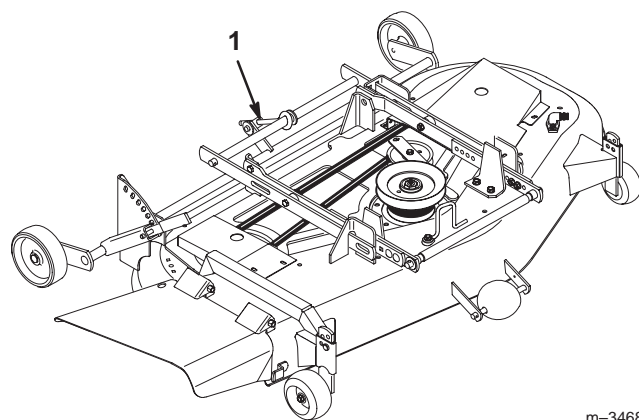

Figure 17
- If an adjustment is required, turn the adjusting nut (Fig. 17) on the back of the mower. To raise the front of the mower, turn the adjustment nut clockwise. To lower the front of the mower, turn the nut counterclockwise.